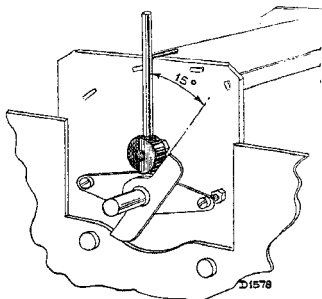

Fig. 4.
4. Fit  $15^\circ$  jig (see Fig. 4).